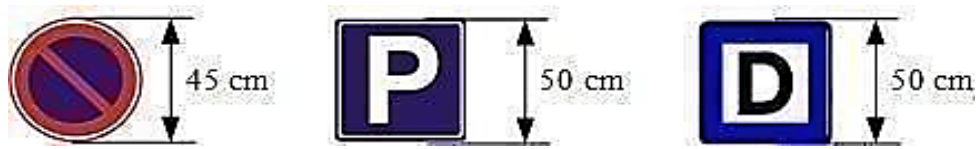

Figure 4 No Parking (left) Parking Lot (Center), Stop (right)
The passenger pick-up point (YA) will be the stop sign shown in Figure 4. The same sign will be used as passenger drop-off sign.